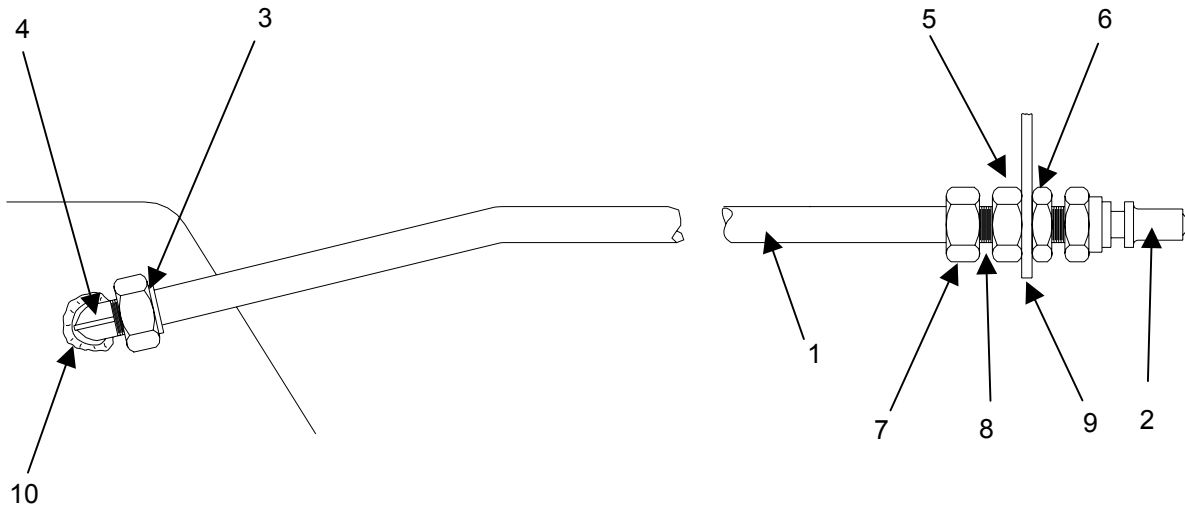

Figure 2. Replace the Fuel Line Assembly
7. Make note of the angle at which the elbow fitting (**figure 2, item 4**) is mounted in the fuel tank port (**figure 2, item 10**).
8. Remove the $\frac{1}{2}$ -inch elbow fitting (**figure 2, item 4**) from fuel tank port (**figure 2, item 10**).
10. Apply new pipe sealer compound to new elbow fitting (**figure 2, item 4**) and screw in place on fuel tank port (**figure 2, item 10**). Make sure that elbow is installed at same angle as before removal.
11. Install new fuel line assembly (**figure 2, item 1**) into elbow fitting and hand tighten compression fitting.
12. Install the union (**figure 2, item 8**) through the bracket (**figure 2, item 9**) and hand tighten the compression fitting (**figure 2, item 7**) and the union locking nut (**figure 2, item 5**).
13. Connect the fuel line (**figure 2, item 1**) to the elbow fitting (**figure 2, item 4**) by hand tightening the compression fitting (**figure 2, item 3**).
14. Making sure that there is no stress on the fuel line (**figure 2, item 1**) tighten compression and union fittings (**figure 2, item 3, figure 2, item 5**).
15. Install fuel interface fitting (**figure 2, item 2**) as described in WP 0030 00.